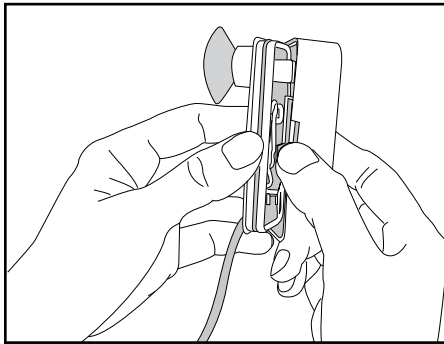
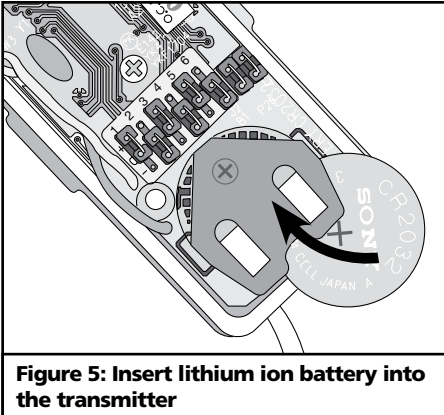

Figure 4: Open transmitter top cover
Figure 5: Insert lithium ion battery into the transmitter
11. The green LED will flash since there is no active transmitter. Remove the top cover of the transmitter with a coin or screwdriver (Fig. 4) and insert the 3V lithium battery (Fig. 5).